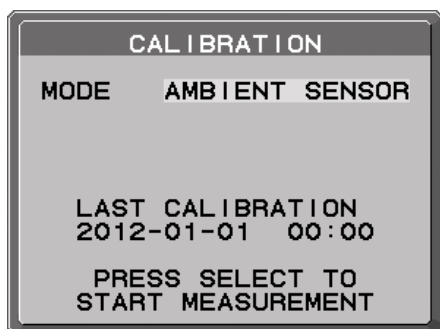

Figure AS.1
2. Turn on the display. After a lapse of 30 minutes, select AMBIENT SENSOR in the calibration mode (**Figure AS.1**). For a proper calibration, the display should warm-up for a minimum of 30 minutes. If AMBIENT SENSOR CALIBRATION is started before the display is warmed up, a warning message will appear on-screen.